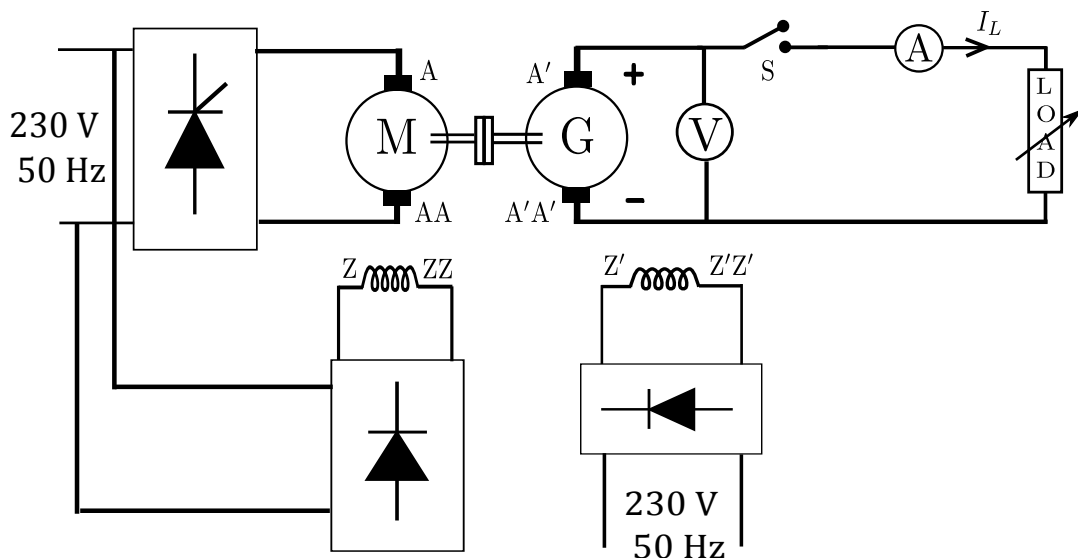

Figure 7: Connection diagram for separately excited DC generator
1. Connect the circuit diagram as shown in Fig. 7. Keep the control knob (which is used for applying variable DC voltage to the field winding of the generator) on the field regulator of generator at 'zero output voltage' position. Put off all switches of the lamp load and open the main switch 'S' connected between the load and the armature of the dc generator. Also, open switches S_1 , S_2 and S_3 . These are on machine stand.